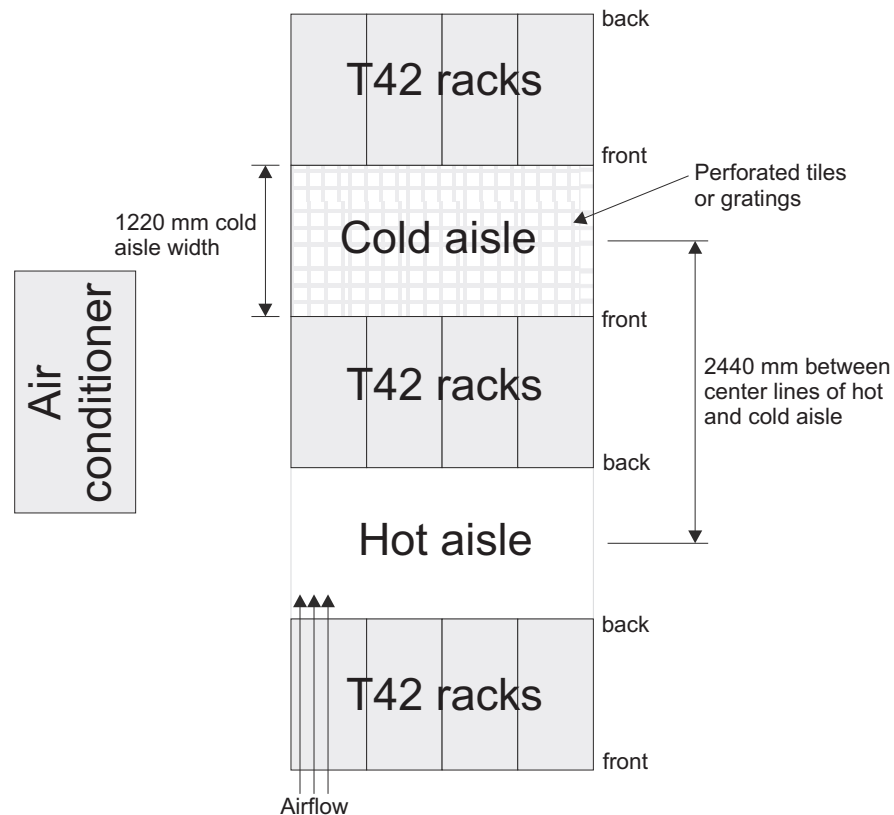

Figure 9. Example of cold aisle/hot aisle rack configuration
- Air enters at the front of the rack and leaves at the back. To prevent the air that is leaving the rack from entering the intake of another piece of equipment, you must position the racks in alternate rows, back-to-back and front-to-front. This arrangement is known as “cold aisle/hot aisle” and is shown in Figure 9.